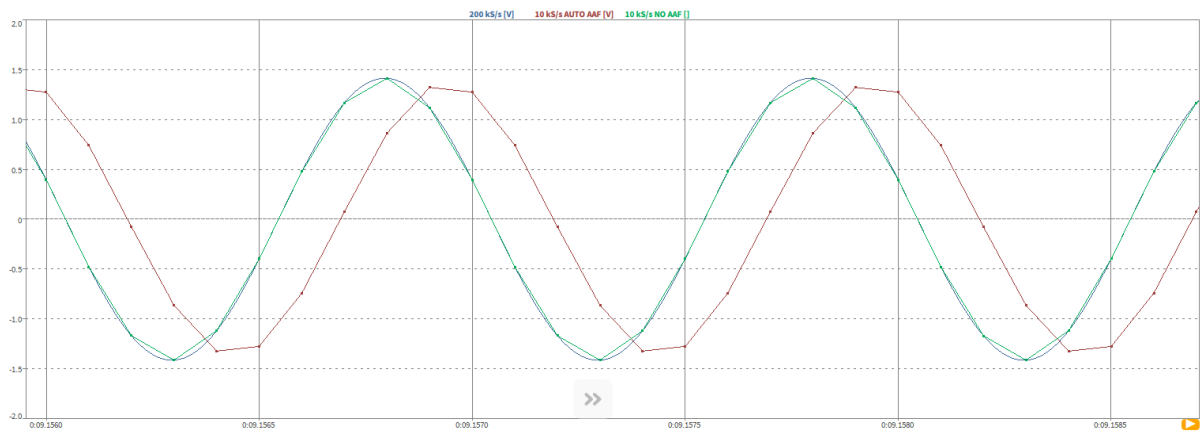

Fig. 7.40: Channel-wise sample rate reduction with example signals
In Fig. 7.40 exemplary signals with and without sample rate reduction and with different filter settings can be seen. The different signals have the following settings:
- A table can also be copied from another source, e.g. Excel and pasted with **CTRL+V** or the *Paste* button into the table scaling menu. Likewise, the table can be copied using **CTRL+C** or the *Copy* button and pasted into e.g. Excel (see Fig. 7.40).